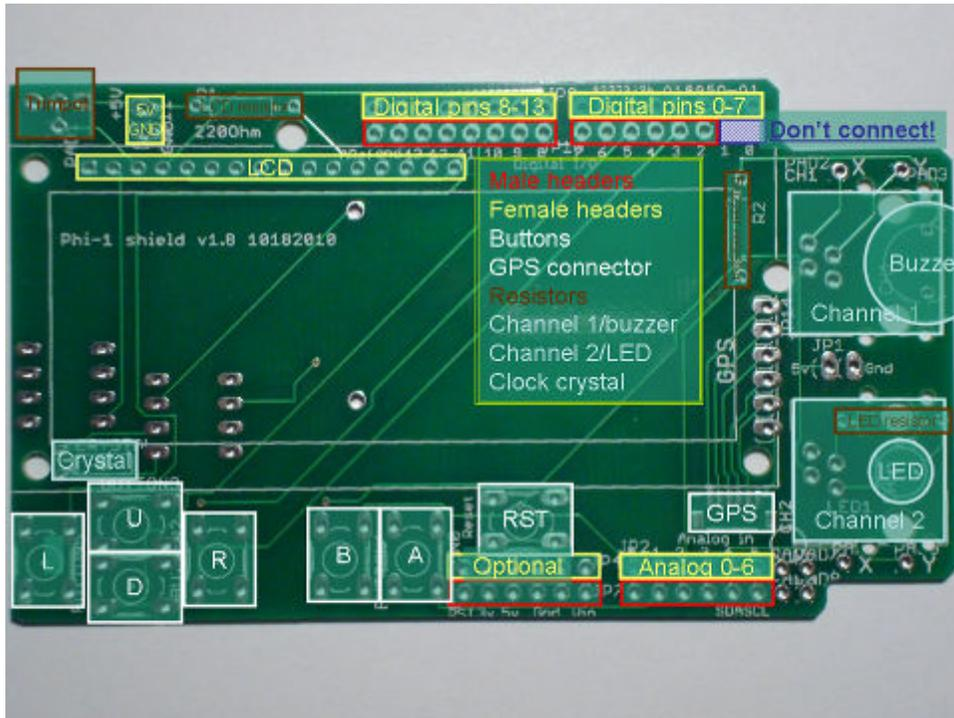

Fig. 2 Front side of the shield PCB with all parts marked.
6. Female headers for the analog and digital pins (yellow rectangles in fig. 2). Use masking tape to secure the female headers in place. To secure the headers, wrap tape around it, even if it means covering most of its pins. Solder one pin to the board to secure it and then you can remove the tape to access the rest of the pins. The optional female header brings out 3.3V besides other pins.
7. Male headers next to the female headers (red rectangles in fig. 2). Please leave pins 0 and 1 alone. Don't put any male headers pins in those holes (blue rectangle in fig. 2). Tape the male headers onto the board. Solder the first and the last pin to secure it. Remove tape and solder the rest of the pins.